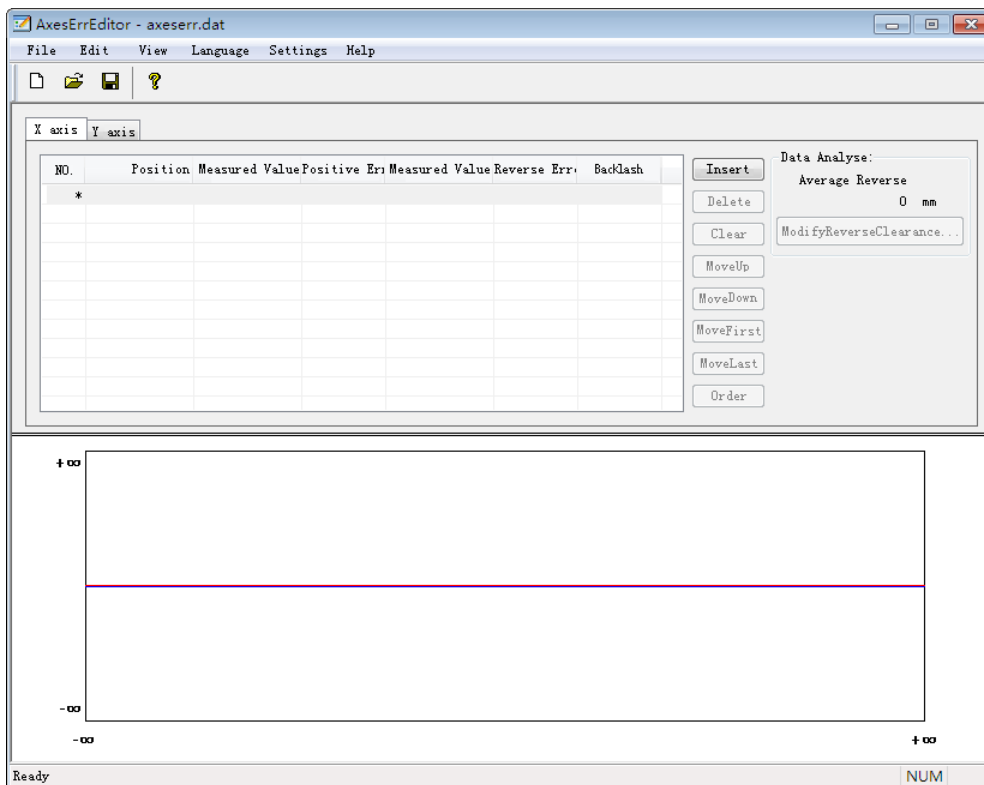

Fig. 6-3 Main interface of AxesErrEditor.exe
The main interface of AxesErrEditor.exe is as shown in Fig. 6-3:
- 2) Directly setting compensation on the interface. Enter position, positive measured value and negative measured value in the interface as shown in Fig. 6-3, positive error, reverse error and reverse clearance calculated automatically. Then save the data file under the corresponding configuration folder. In this way, automatic compensation will be performed during machining according to the value in the file.
V9 version supports X, Y and Z axes while V12 version, its interface as shown in Fig. 6-3, supports X and Y axes.